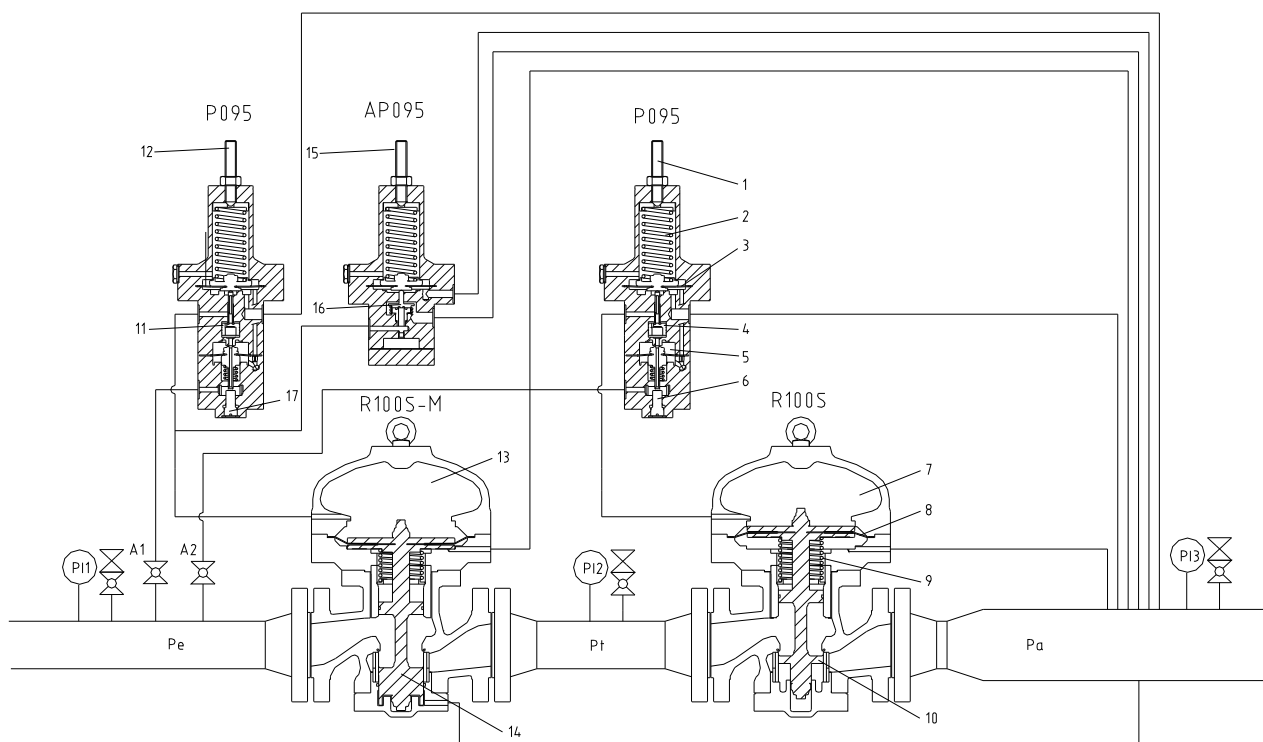

Figure 2 Schematic of gas reducing run with spring closed active and monitor
- of the active and monitor Pilots (items 1 & 12, fig.2).
- (item 15)
- fully turn the adjusting screw (located at bottom of the pilot) inward (CW) carefully until it just stops on to the seat inside
- then screw the adjusting screw out again (turning CCW) one (1) complete turn